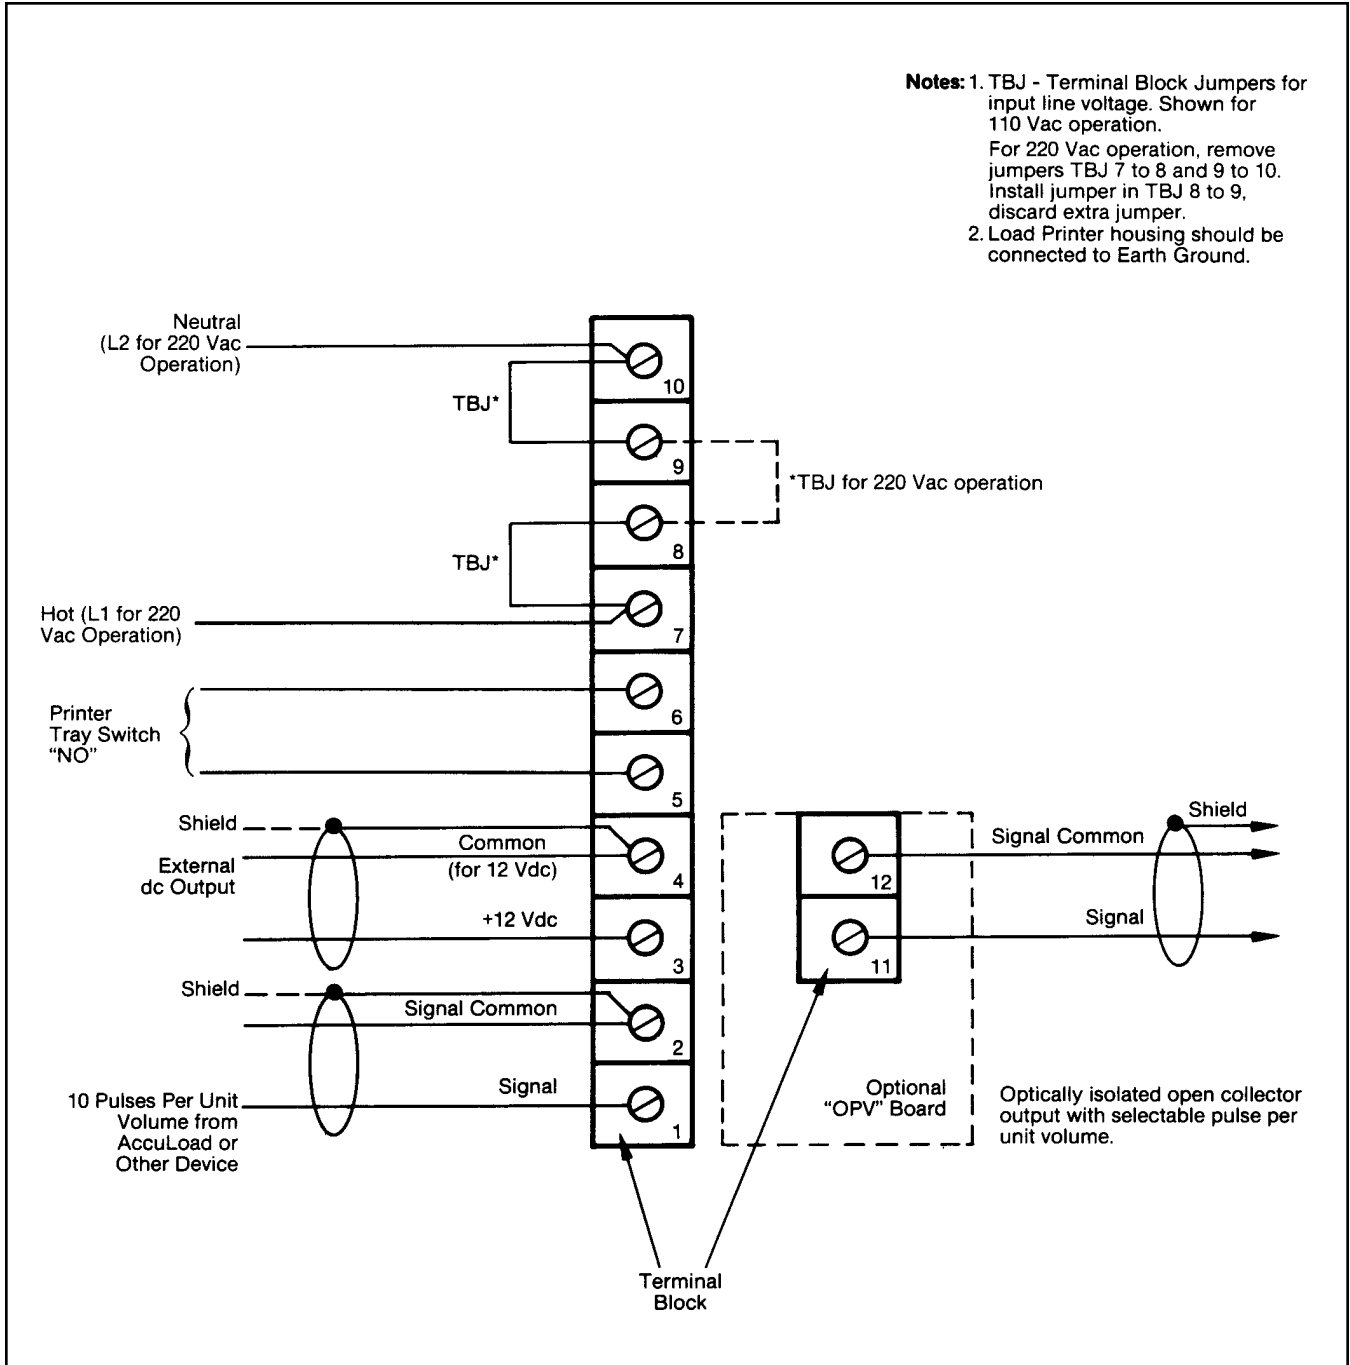

Figure 2 – Load Printer Wiring
8. **AC Power Connections.** Connect the ac electrical power input to the Terminal Strip, Terminal Numbers 7 and 10 (Figure 2). Use #14 AWG minimum stranded. AC power connections include Terminals 5 through 10. Use conduit entrance nearest front.
- a. **For 110Vac** - Two jumpers are used. One jumper must connect Terminal Number 7 to Terminal Number 8. The second jumper must connect Terminal Number 10 to Terminal Number 9 (Figure 2).
10. Complete the other connections as follows (Figure 2):
Editorial Change: Page 5: On figure 2 - External Output - "(not used with AccuLoad)" removed. October 2013)